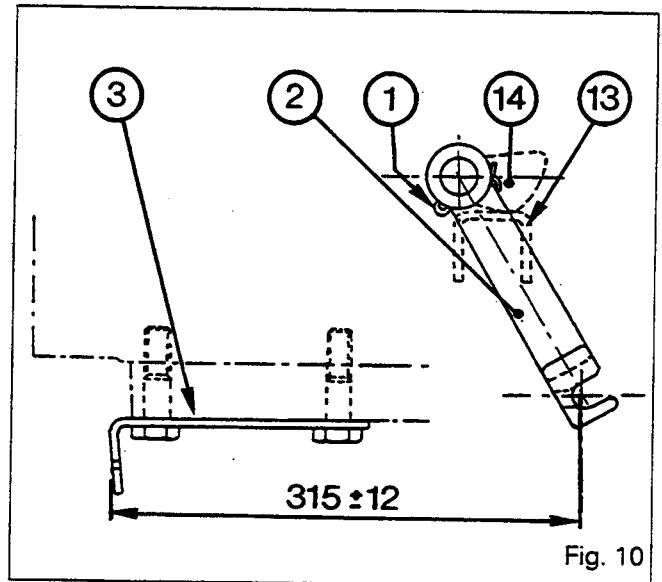

Fig. 10
49. Position the circlip (1).
51. Refit the pinion (2) (if fitted).
52. Position the circlip (1).
55. Position the lever (2) (Fig. 10) of the cam (14) in contact with the lever (13) so as to obtain a distance of 315 mm  $\pm$  12 between the cable fastening axis and the support (3). Fit the cotter pin (1) (Fig. 10).